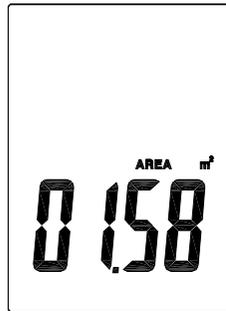

Fig.3
3. Press  or  to scroll to unit that you want to change((refer Fig.3)).
that you want to change (refer Fig.3). Press  t,